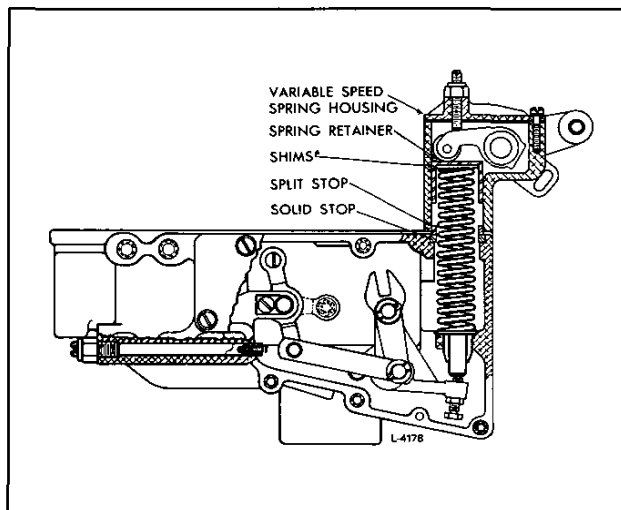

Fig. 13 - Location of Shims and Stops
3. Refer to Table 1 and determine the stops or shims required for the desired full-load speed. A split stop can only be used with a solid stop (Fig. 13).